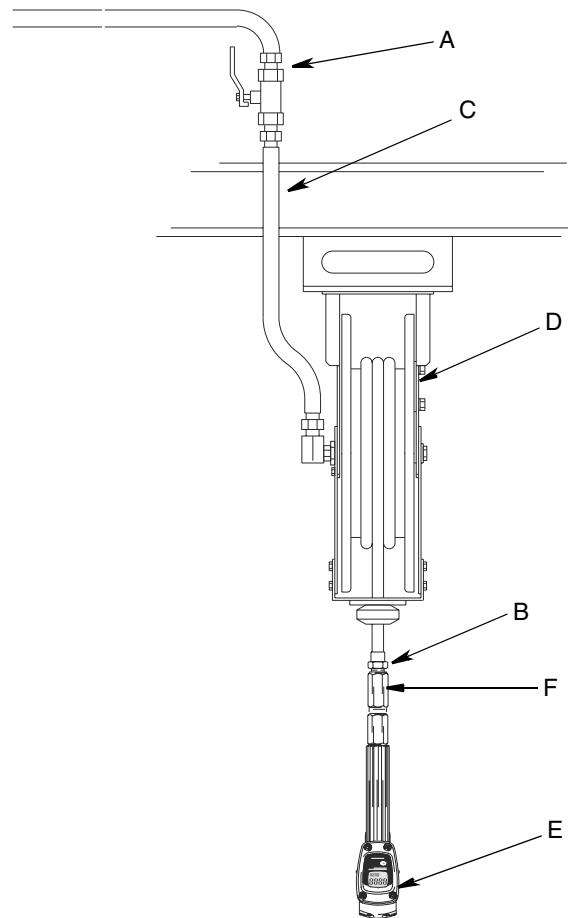

FIG. 1: Typical Installation
The installation shown in FIG. 1 is only a guide. The components shown are typical; however, it is not a complete system design. Contact your Graco distributor for assistance in designing a system to suit your particular needs.
1. Close the fluid shut-off valve (A) at each dispense stations. (Fig 1, page 4)
4. Slowly open the shut-off valve (A) at the dispense station. Flush out a sufficient amount of grease to ensure that the entire system is clean, and close the valve. (FIG. 1, page 4)